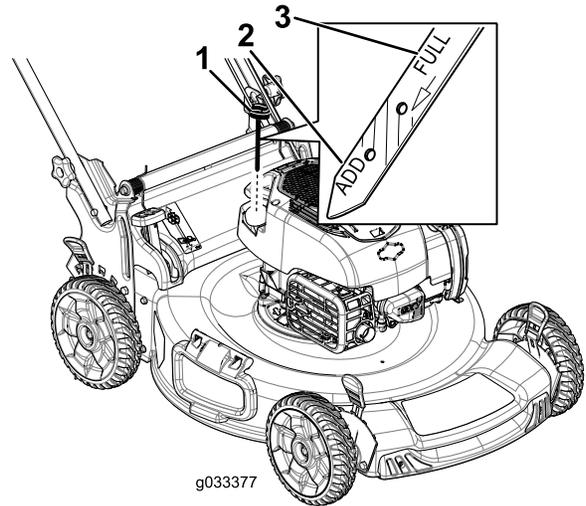

Figure 7
1. Remove the dipstick (Figure 7).
2. Slowly pour oil into the oil-fill tube until the oil level reaches the Full line on the dipstick (Figure 7). **Do not overfill.**